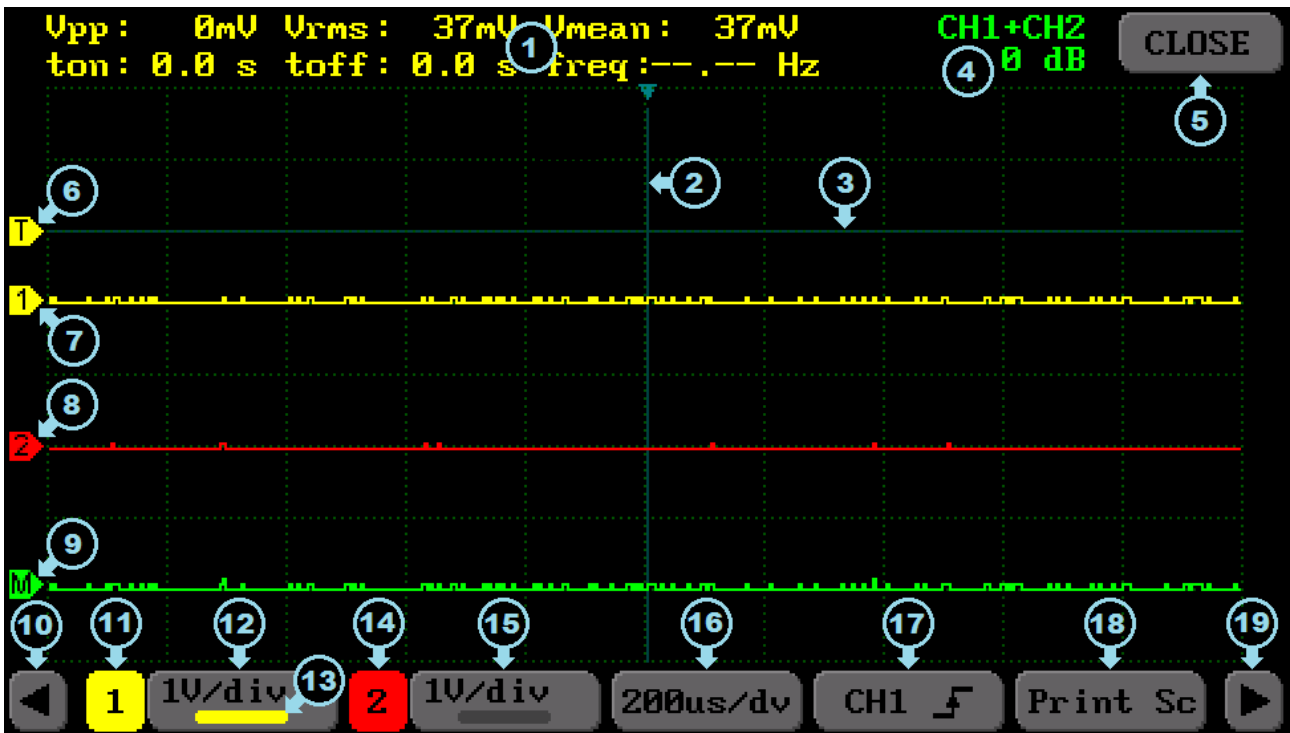
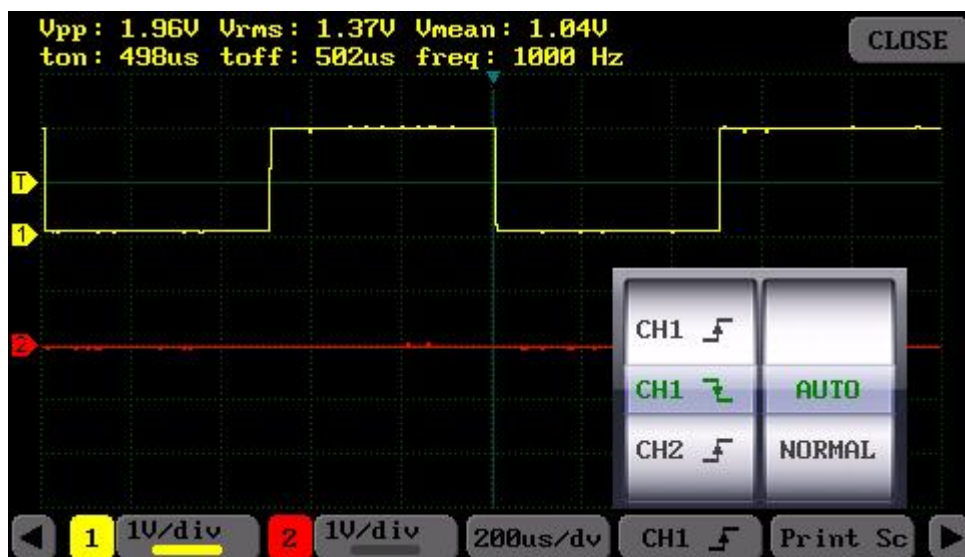
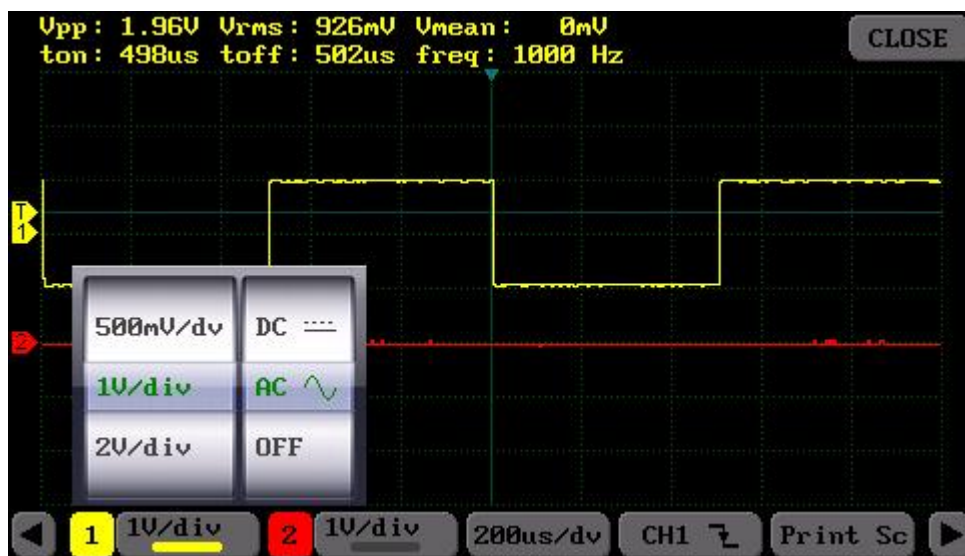

Figure 3a. Oscilloscope mode – Menu1
Figure 4. Trigger Menu
Figure 5. Setting menu for Channel 1
To keep the observed signal constant on the display, the trigger source must be selected for that channel. Otherwise, it will be difficult to observe because the signal will be very moving on the display. To choose the trigger source, trigger menu should be opened by pressing the button shown as 17 in the Figure 3a. Then, trigger channel and trigger edge should be selected from the menu seen in the Figure 4.
On the purpose of observing the signals clearly on the screen, there may be needed to adjust for every single channel. To adjust the Channel-1, the button numbered (12); to adjust the Channel-2, the button numbered (15) should be selected (Figure 3a). The Channel-1's setting menu is seen in the Figure 5. It consists of two parts: In the menu's left side, vertical sensitivity can be arranged a value ranging from 20mV/div to 10V/div. In the right side of the menu, coupling option can be adjusted as AC or DC. OFF position should be selected to avoid appearing signal on the screen. In a similar way, the settings can be made via the menu numbered (15) for the Channel-2.
The buttons on the left side of channel setting buttons (11 and 14), provides channel selecting. The required signal via channel tuning can be resituated by sweeping upright on the screen. The selected channel's info is seen in (13) (the selection in the Figure 3a is for Channel-1).
The horizontal sensitivity can be arranged ranging from 10 ns/div to 5s/div value. As it seen in the Figure 3a, this tuning can be performed from the menu numbered (16).
To perform measurement on the observed signal, 'Cursor' menu is used. 'Cursor' menu could be activated by selecting the button which is seen as (22) in the Figure 3b (Menu 2). To switch to Menu 2, the buttons providing switching among the menus are used (in the Figure 3a, (10) and (19) buttons).